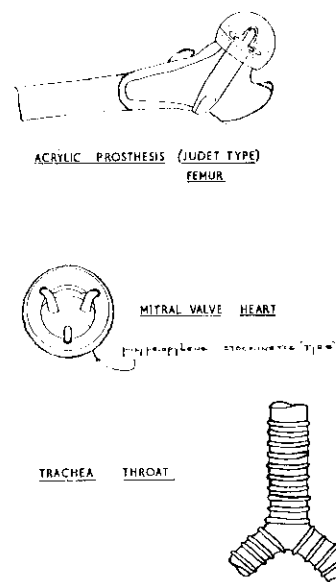

Fig. 1. Plastic implants.
**Fig. 1.** The only maintenance the Aquastat requires is to check the control box setting. This is a 6in. process unit at Horton Hospital, Epsom with one of the calorifiers showing in the foreground.
There have been quite a number of operations to treat osteoarthritis of the hip—Smith-Peterson's vitallium mould or cup, Austin Moore's prosthesis and the Judet's prosthesis to name one or two—but it is the last one which again makes use of plastic (Acrylic). The head of the femur (a domed structure shown in Fig. 1) was reproduced in polymethyl methacrylate but the stem, which had to be inserted into a hole in the bone, did not stand up to the bending moments set up around the head when implanted into position.